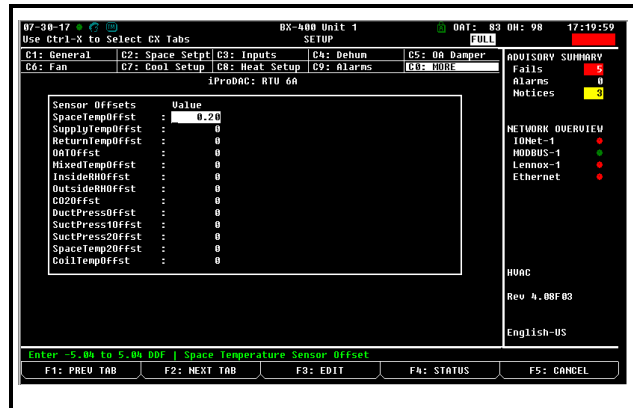

Figure 7-9 - Sensor Offset Properties in E2 - C0: MORE Tab
5. Enter the appropriate offset value (Figure 7-9).
4. Press Ctrl + 0 and select F Sensor Offsets or press **F2** to access the C0: MORE tab and scroll through the tabs to access the Sensor Offsets (Figure 7-9).